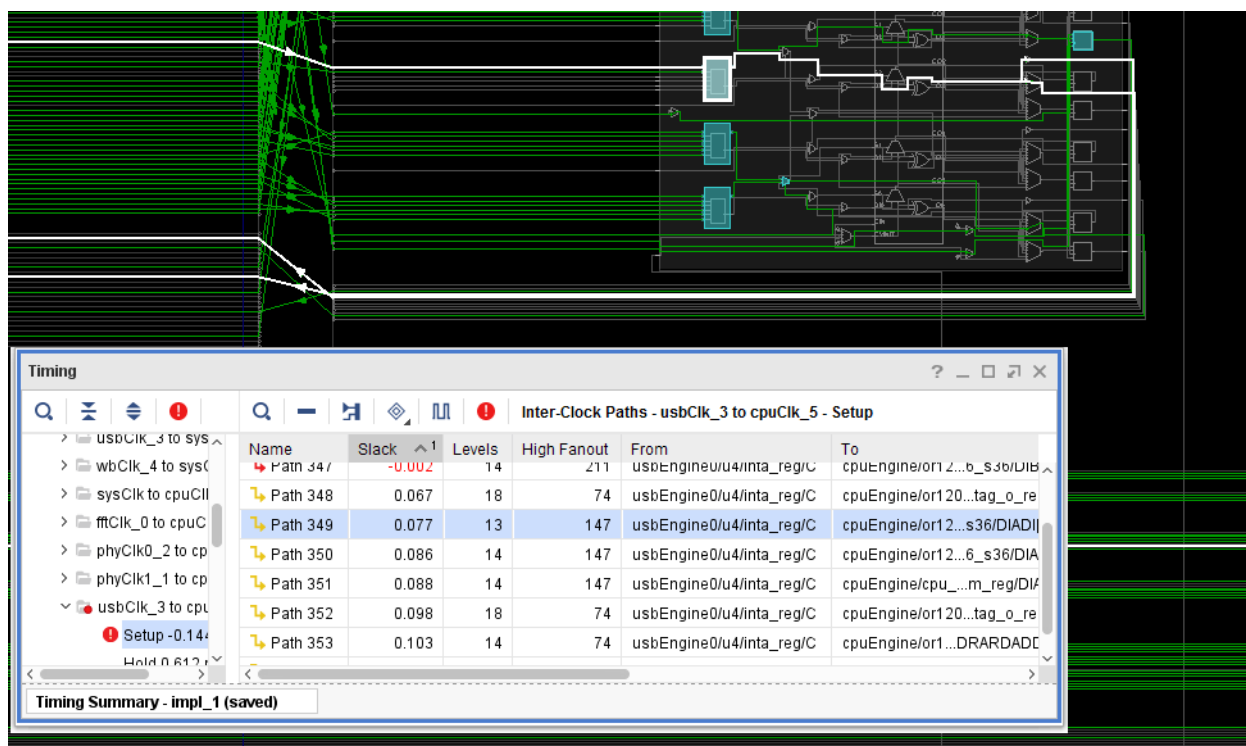

Figure 3-10: Cross-Probing Between Timing Report and Device Window
Figure 3-10 shows an example of cross probing between the Timing Summary report and the Device window. The following steps take place in this Non-Project Mode example:
- When the timing path is selected in the Timing Summary report, cross probing on the path occurs automatically in the Device window, as shown in Figure 3-10.